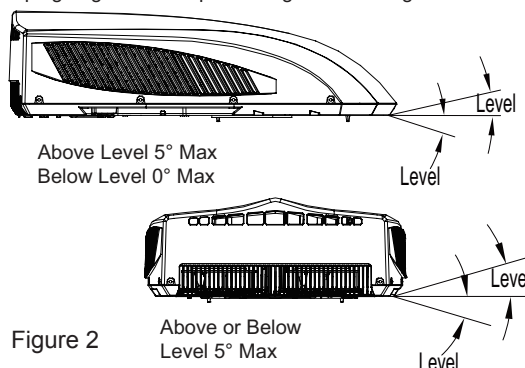

Figure 2
1.The roof top air conditioner must be mounted on a level plane from front to rear and side to side when the vehicle is parked on a level plane. Figure 2 shows maximum allowable degrees that the unit can be mounted above or below level.